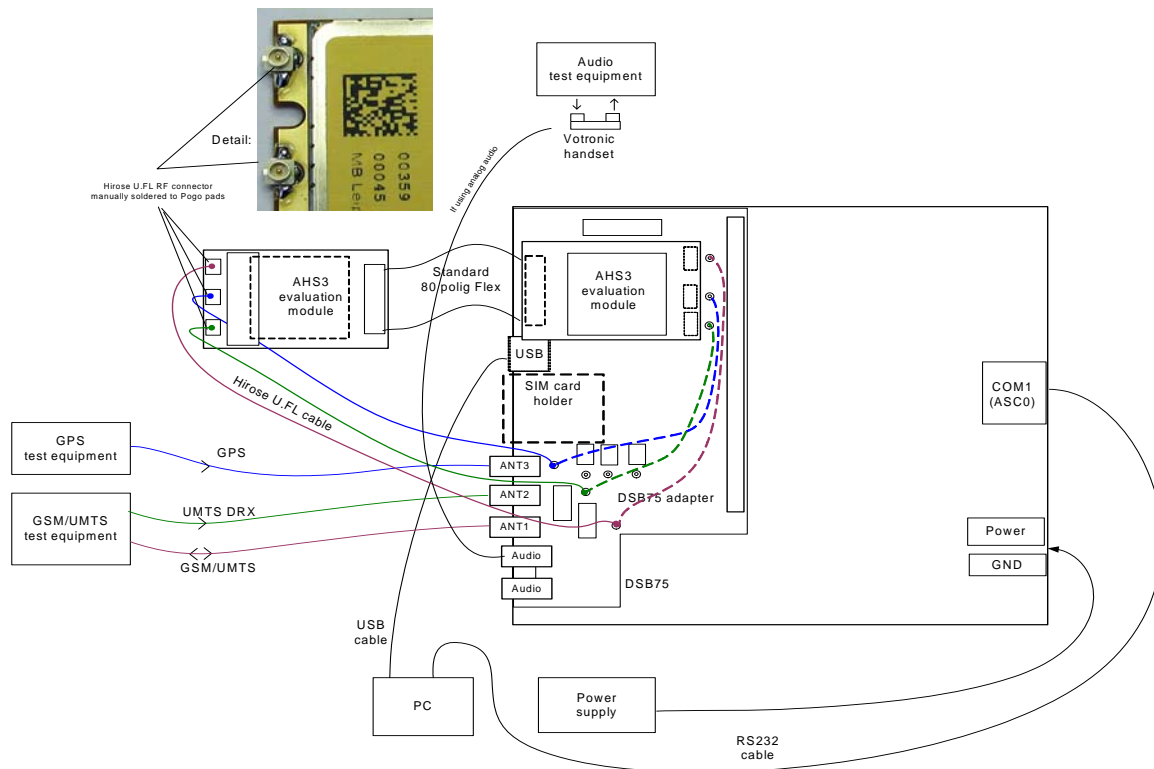

Figure 11: Reference equipment for type approval
1. For RF performance tests a mini-SMT/U.FL to SMA adapter with attached 6dB coaxial attenuator is chosen to connect the module directly to the GSM/UMTS/GPS test equipment instead of employing the SMA antenna connectors on the AHS3-US-DSB75 adapter as shown in Figure 11. The following products are recommended: